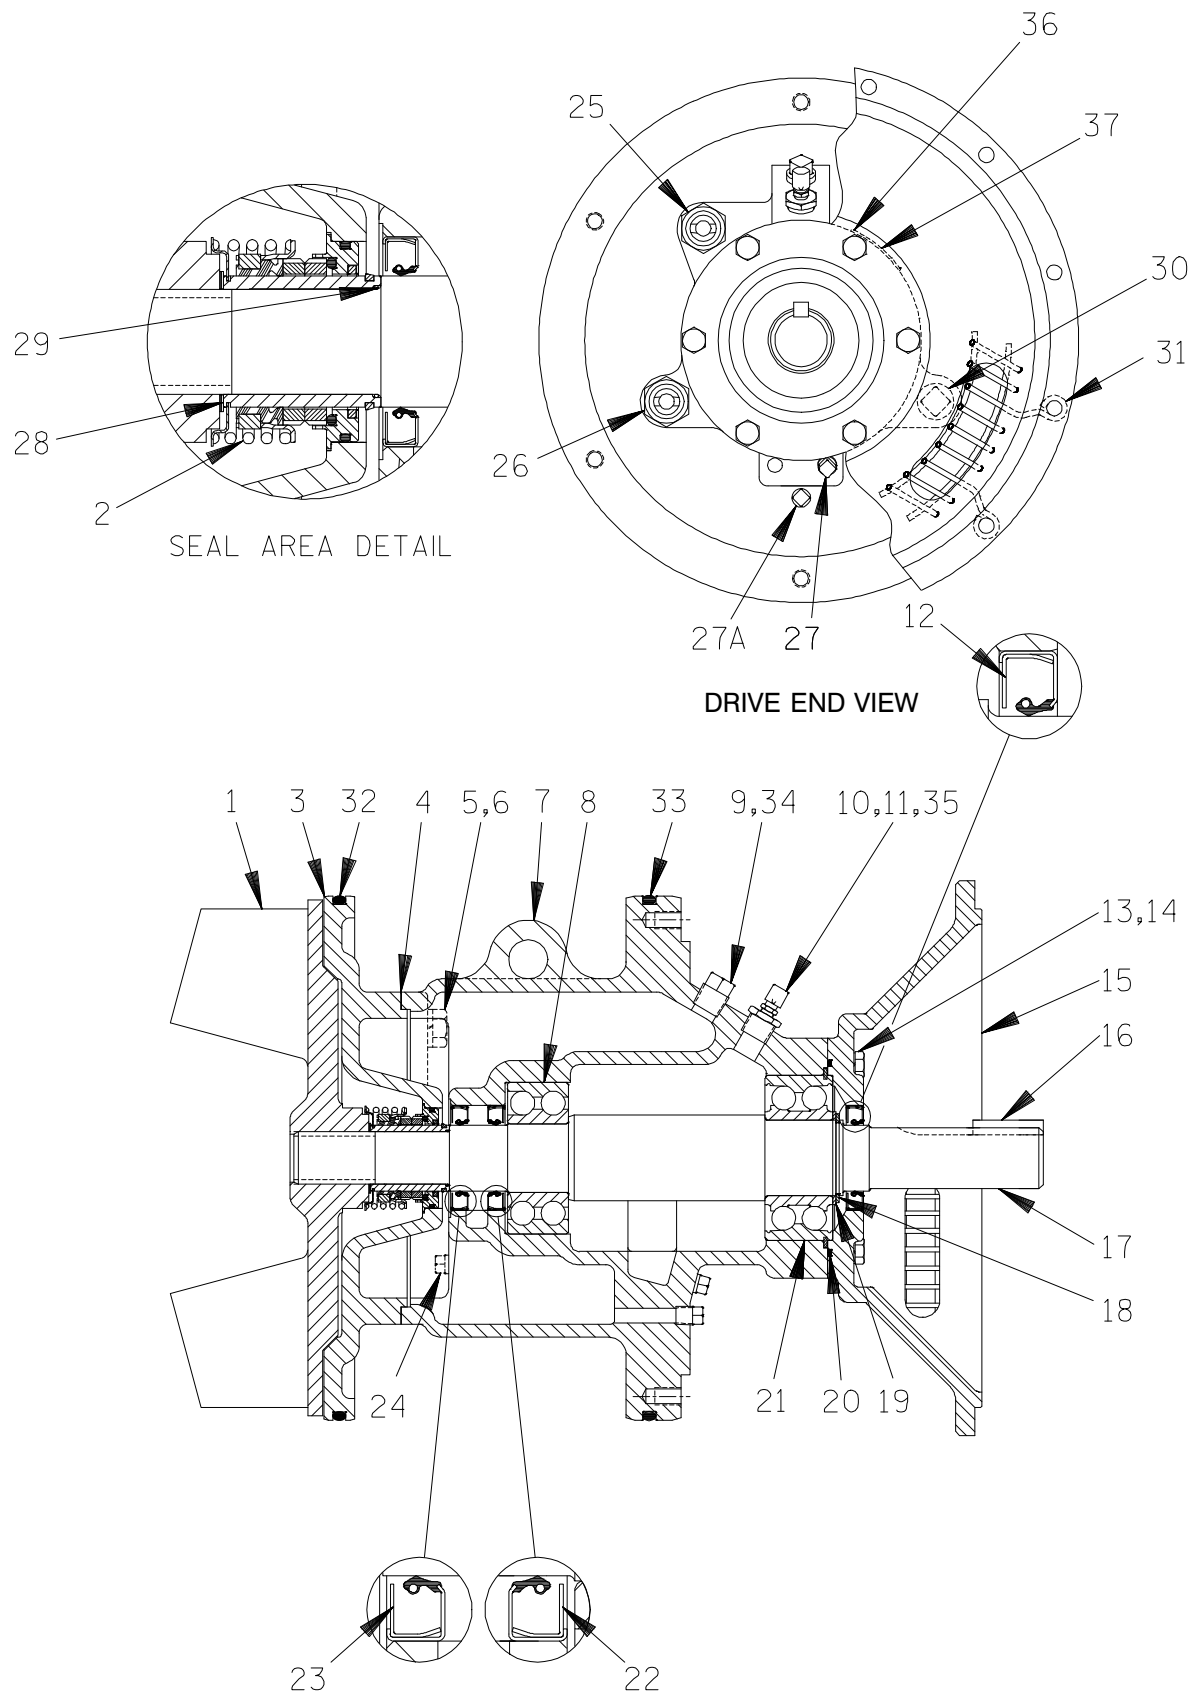

Figure 4. 44163-355 Repair Rotating Assembly
Disengage the hardware (6 and 7) securing the drive flange to the engine bellhousing, and remove the guards (31, Figure 4). Separate the pump end and drive assembly from the engine by pulling the pump end straight away from the engine.
As the assemblies separate, the flexible portion of the coupling assembly (3) will remain on the shaft. To remove the coupling from the shaft, unscrew the two allen head setscrews from the bushing (2). Screw one of the setscrews into the puller hole on the circumference of the bushing. As the coupling and bushing separate, remove the bushing, and slide the coupling off the shaft. Remove the shaft key (16, Figure 4).
(Figure 4)
To install the tool, remove the vented plug (9, Figure 4) from the bearing housing, and screw the longest length of pipe into the vent hole until fully engaged. Install the tee, and screw the handles into the tee. Use caution when lifting the rotating assembly to avoid injury to personnel or damage to the assembly.